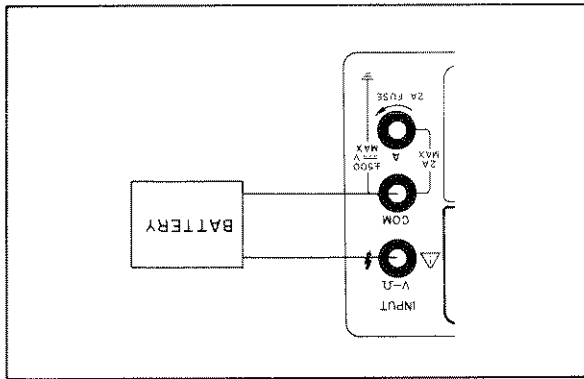

Figure 3-5. DC Voltage Measurements.
- Connect test leads from the Multimeter V $\Omega$  (high) and COM (low) terminals to the voltage under test as shown in Figure 3-5.